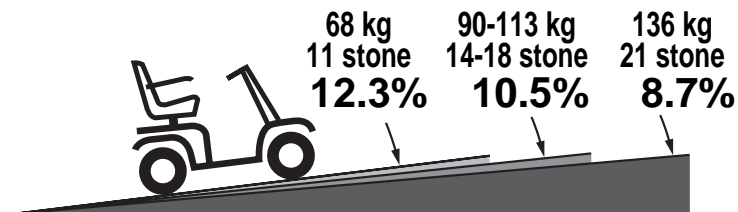

FIGURE 1. MAXIMUM RECOMMENDED INCLINE ANGLE FOR THE 3-WHEEL CYCLONE
Handicap public access ramps are not subject to government regulation in all countries, and therefore do not necessarily share the same standard percent of slope. Other inclines may be natural or, if man-made, not designed specifically for Scooters. Figures 1 and 2 illustrate your Cyclone's stability and its ability to climb grades under various weight loads and under controlled testing conditions.
**WARNING! Any attempt to climb or descend a slope steeper than shown in figures 1 and 2 may put your Scooter in an unstable position and cause it to tip, resulting in personal injury.**